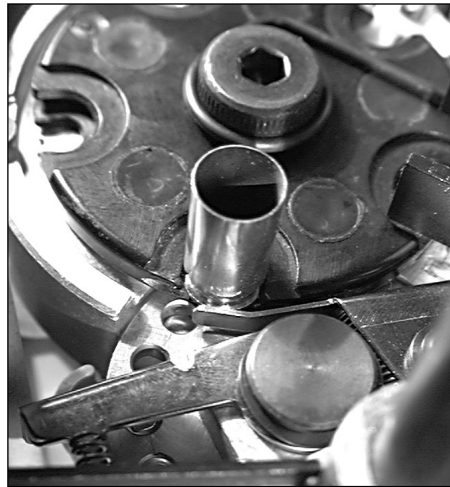

FIG 195
3. Adjust the locator tab so that the tab just clears the case FIG 195. The objective here is, with the case fully inserted into the shellplate, the locator tab should not come into contact with the case. However, the tab should be close enough so as to not allow the case to lose its position in the shellplate. The distance between the locator tab and the case should be about .010" or about the thickness of a business card.